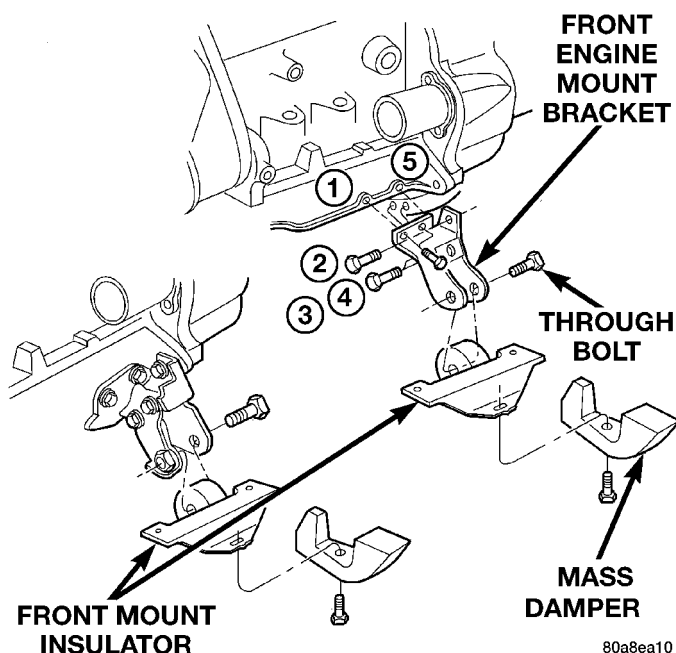

Fig. 13 Engine Mounting—Front
(1) Raise vehicle on hoist.
(2) Support the engine and transmission assembly with a floor jack so it will not rotate.
(3) Remove the front engine mount thru-bolt from the insulator and engine mount bracket (Fig. 13).
(4) Remove the mass damper. Remove the front mount nuts and remove insulator assembly.
(5) Remove the engine mount bracket, if necessary.
(6) Reverse removal procedure for installation and tighten fasteners in this order.
a. If engine mount bracket was removed, tighten bolt 1 to 3 N·m (20 in. lbs.) and bolts 2, 3 and 4 to 108 N·m (80 ft. lbs.) (Fig. 13).